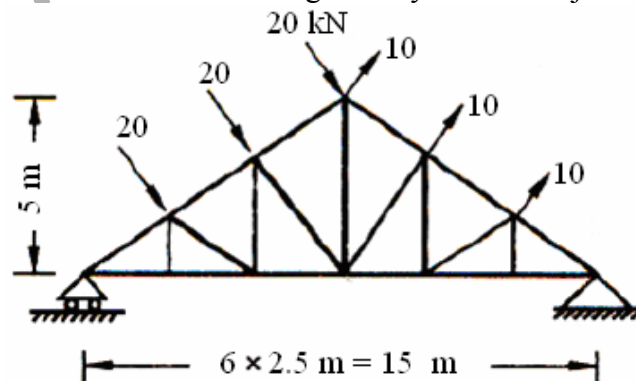

Figure 4:
7. Analyze the truss indicated in the figure 4 by method of joints. [16]